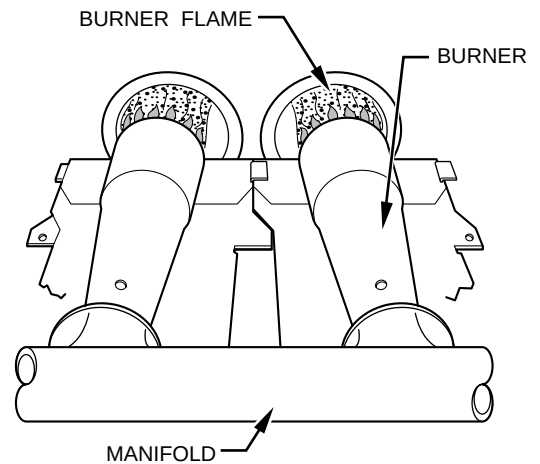

Fig. 64—Burner Flame
- Replace burner enclosure front and verify adjusted gas input rate using method outlined in item 3.
- Look through sight glass in burner enclosure and check burner flame. Burner flame should be clear blue, almost transparent. (See Fig. 64.)